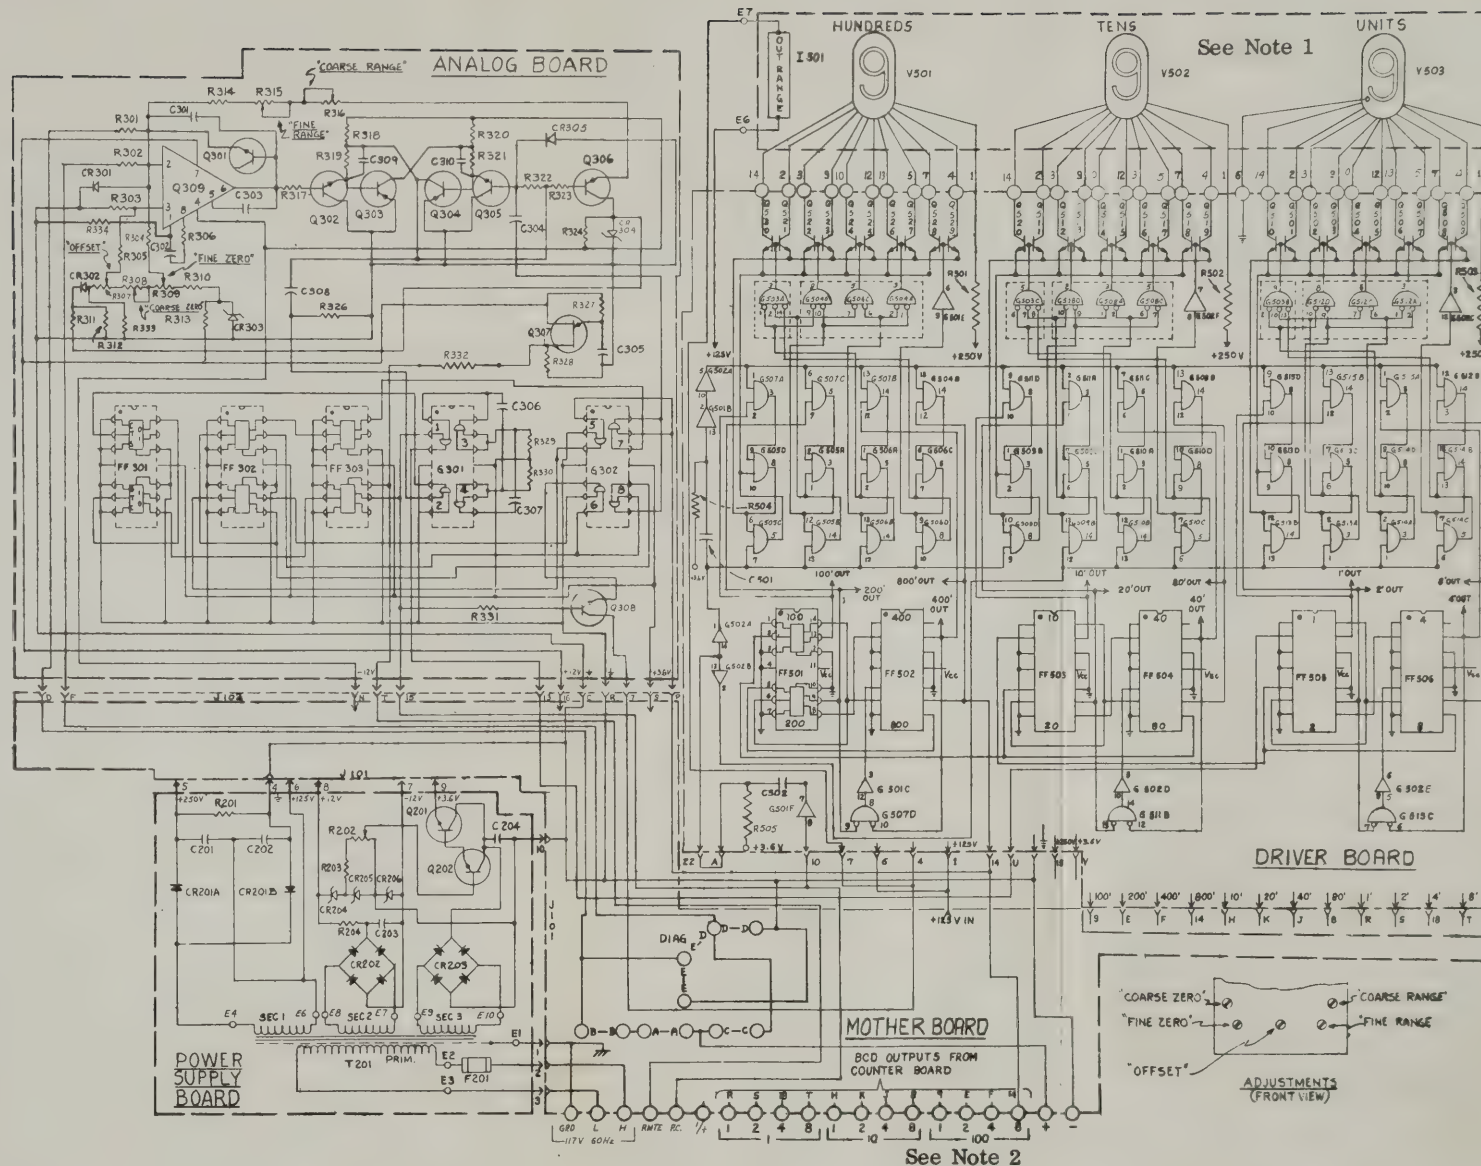

Figure 6. Schematic Wiring Diagram
2. Figure 6 is the basic diagram applicable to all meters listed in the Table of Specifications. In order to obtain the complete wiring for a specific range and function, refer to the table on back of this page for identification and location of additional components and connections required between terminals identified A-A1, B-B1, C-C1, D-D1, E-E1. See views A and B on back of diagram for actual physical location of components on Mother board.